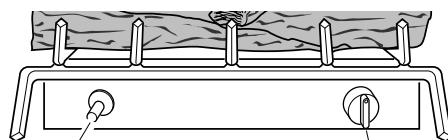

Figure 21 - Control Knob and Ignitor Button Location
4. Wait five (5) minutes to clear out any gas. Then smell for gas, including near the floor. If you smell gas, **STOP!** Follow "B" in the safety information, column 1. If you don't smell gas, go to the next step.
5. Press in control knob and turn counterclockwise  to the PILOT position. Keep control knob pressed in for five (5) seconds (see Figure 21).